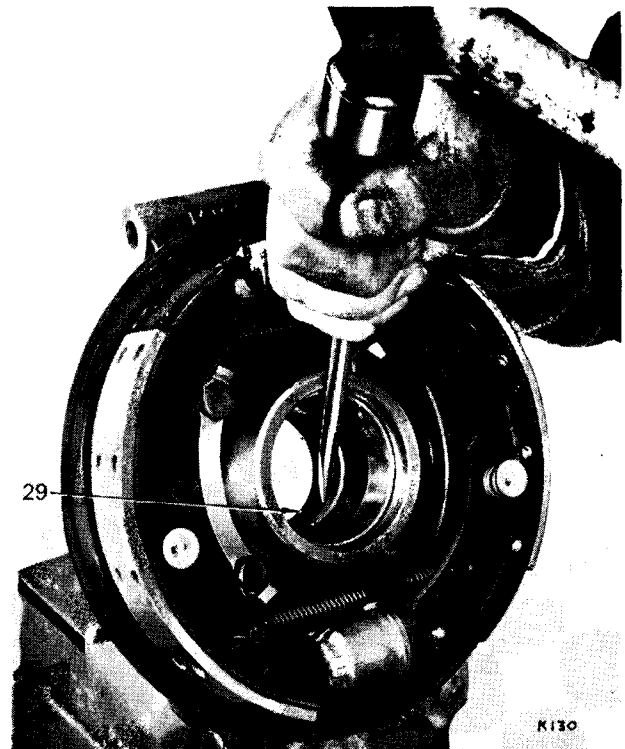

Fig. 66. Drifting out inner oil seal
1. Turn the bearing (31) sideways to permit its removal through the inner grease seal.
2. Using a screwdriver, drift out grease seal (29) from the vertical link (Fig. 66).